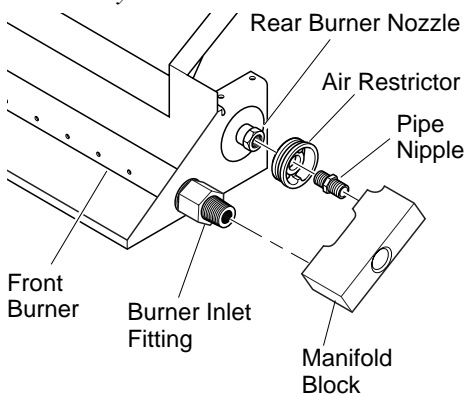

Figure 15 - Kit Assembly
1. Remove the burner inlet fitting from the front burner manifold (installed in burner pan). See Figure 15, page 11.
4. Apply thread sealant compound to the 3/8" male threads of the burner inlet fitting. Thread the manifold block (see Figure 15) onto the burner inlet fitting. Use the bottom hole of the block.
5. Apply thread sealant to the 1/8" brass pipe nipple and thread it into the manifold block (see Figure 15). Tighten with a 7/16" wrench.